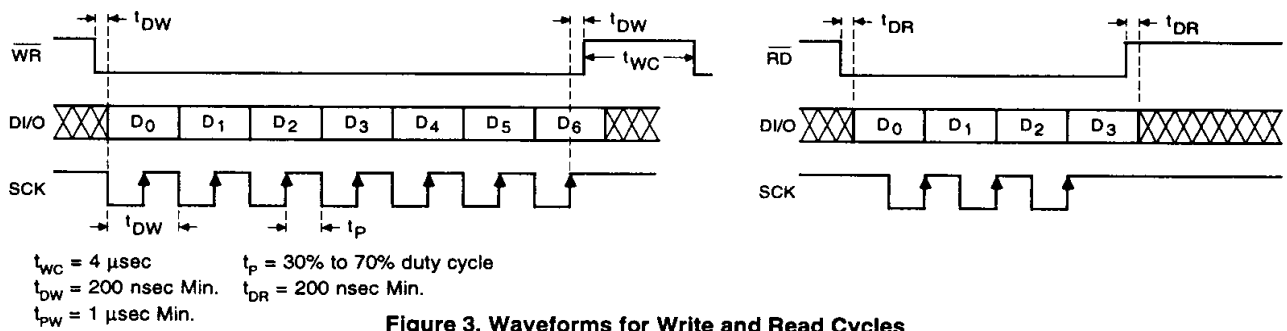

Figure 3. Waveforms for Write and Read Cycles
2. Information from the modem IC. Data is read serially from the modem when \overline{RD} is low, on rising edges of the SCK clock. (See Figure 3 for read cycle waveforms). Up to 4 data bits (D0-D3) can be read as defined below:
are shifted by repeating the above procedure. Only 7 data bits should be sent. If an 8th data bit is sent, the first data bit D0 will be lost from the input register. The received data will then be D7-D1 rather than D6-D0. To read data from the SC11004/14 (see timing waveforms of Figure 3), the RD line is first made low. The least significant bit D0 is now available on the DI/O line. The SCK line is toggled low and then high to shift the next data bit out of the SC11004/14 output register. The SC11004/14 shifts the data out on the rising edges of SCK. The controller should read data on the falling edges of SCK when it will be stable. Note that D0 appears on the DI/O line as soon as RD is taken low. If the controller only wants to read the status of the energy detector, there is no need to toggle SCK line. By making RD low, the energy detector level can be read by reading DI/O. RD can then be taken